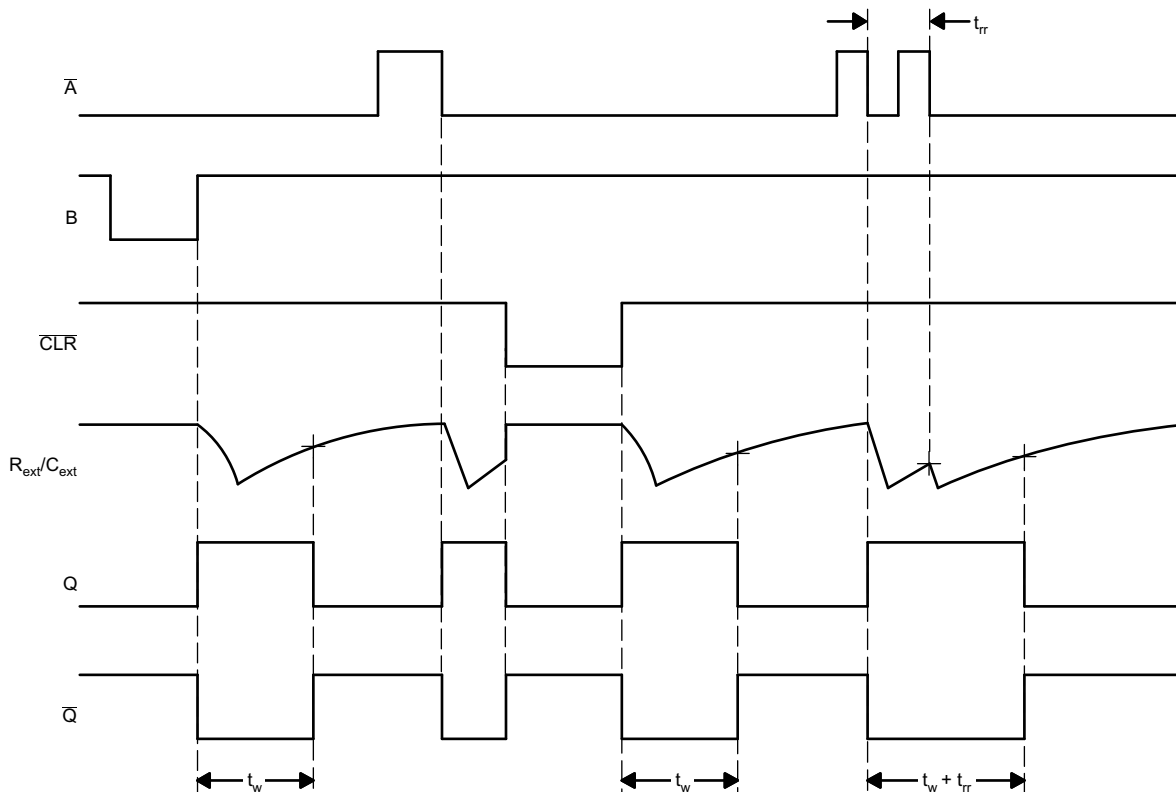

Figure 1. Input and Output (I/O) Timing Diagram
over recommended operating free-air temperature range, $V_{CC} = 3.3\text{ V} \pm 0.3\text{ V}$ (unless otherwise noted). See Figure 1 and the circuits in the Parameter Measurement Information section.
over recommended operating free-air temperature range, $V_{CC} = 5\text{ V} \pm 0.5\text{ V}$ (unless otherwise noted). See Figure 1 and the circuits in the Parameter Measurement Information section.
When triggered, the basic pulse duration can be extended by retriggering the gated low-level-active (\bar{A}) or high-level-active (B) input. Pulse duration may be reduced by taking $\overline{\text{CLR}}$ low. The input-output timing diagram (Figure 1) shows pulse control by retriggering the inputs and early clearing.